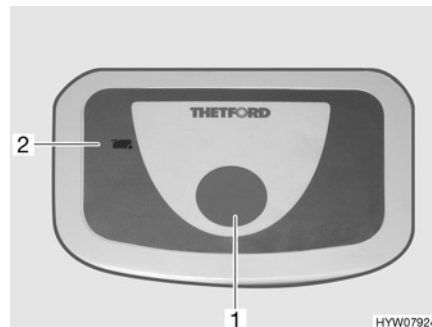

Fig. 115 Flush button/indicator lamp (Thetford toilet)
- For flushing, press the blue flush button (Fig. 115,1).
The indicator lamp (Fig. 115,2) lights up whenever the sewage tank has to be emptied.